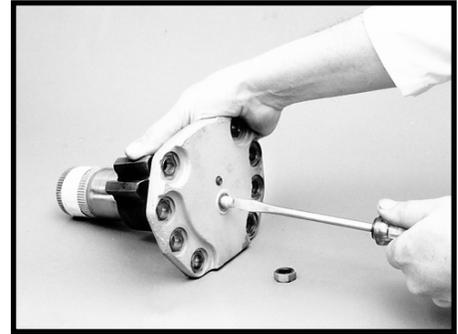

Figure 142
- 36. Apply a generous amount of clean grease to the short bearing area of the sector shaft (48), and insert the sector shaft into the side cover (56). Screw the adjusting screw into the side cover until it reaches solid height. Then, back out the adjusting screw one turn, so that the side cover rotates freely on the sector shaft. SEE FIGURE 142.